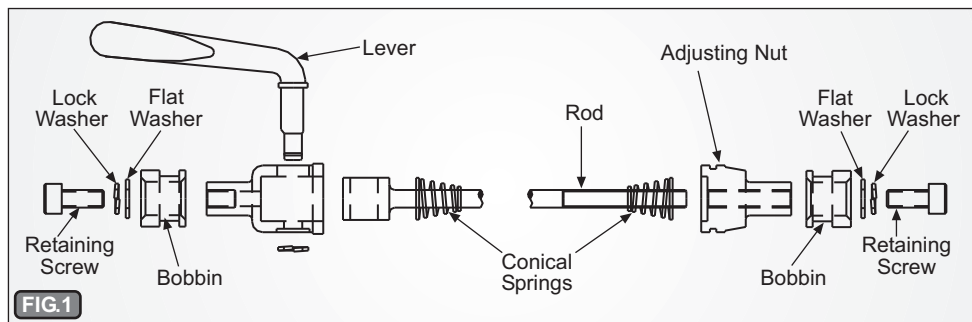

FIG. 1
IMPORTANT: Bicycle manufacturers use a large variety of components and materials to build their bikes and the thickness of the rear wheel dropouts vary greatly. It is extremely important to have your BOB QR sized to the appropriate length and correctly installed on your bike. Please note the dropout inside dimension assumes that the dropouts are firmly pressed against the hub axle over locknuts, alleviating any gap between the two and allowing for an accurate measurement. The QR's primary role is to secure the rear wheel to your bike, and secondarily, it is the structural link between the bike and trailer. For a QR to work properly, the QR rod must extend past the dropout on the derailleur side by a minimum of 3/8 inch (10mm) and maximum of 3/4 inch (19mm). **Fig. 1** shows the anatomy of the BOB Quick Release.
1) The stainless steel pivoting BOBBINS on the quick release skewer are asymmetrical as shown in **Fig. 1**. This asymmetrical design allows the BOBBINS to be reversed, allowing for a variance of approximately 13mm in outside dimensional span of the bike's dropouts.
3) With the quick release installed, and using a 4mm Allen wrench, remove the BOBBIN retaining screws, **Fig. 1**, on both the left and right sides. Remove the BOBBINS and reverse them noting the position of the lock and flat washers.